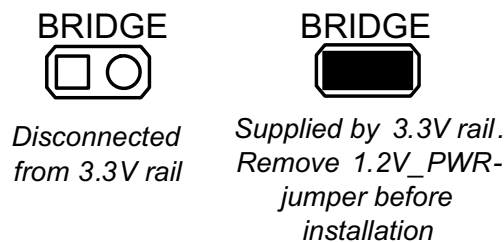

Figure 6. Bridge Jumper Settings
1.2V_PWR - Supplies the Collector of the external bipolar transistor of the 1.2V rail. Installing connects it to VREG (5.3V-output of the Buck-regulator). If uninstalled, the transistor is not powered (Note: at light loads, the base-current may be sufficient to supply the output, but adding a load causes V_{OUT} to drop). An alternative to supply the 1.2V rail is to install the jumper on BRIDGE (see Figure 6), but make sure to never have both jumpers (1.2V_PWR and BRIDGE) installed at the same time.